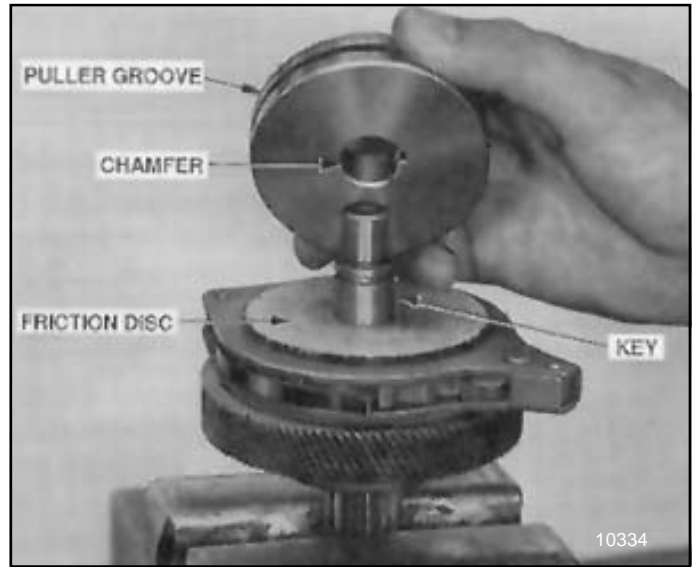

Figure 5-7. View Showing Load Brake Flange Removed.
(2) Using a puller tool, remove brake flange from shaft. A groove is provided around outer diameter for this purpose. See Figure 5-7. Remove key from shaft and lift off 2 friction discs, and the pawl and ratchet assembly (Figure 5-8).
(3) When installing brake flange, position it with chamfer facing friction disc (Figure 5-7).